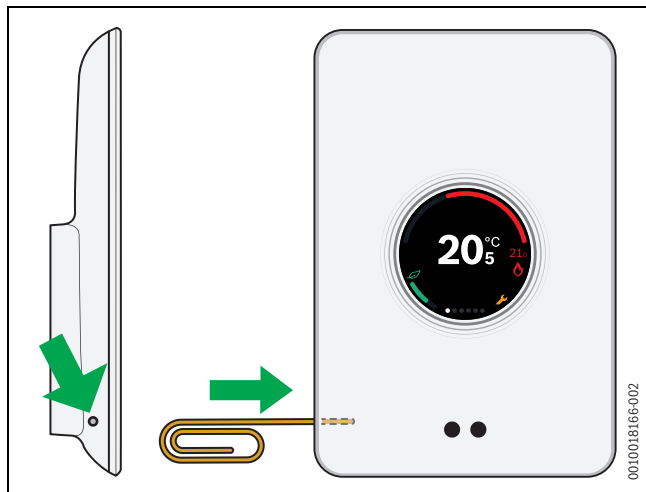

Fig. 20 Reset
- Press the Reset button (→ fig. 20) and hold for several seconds.